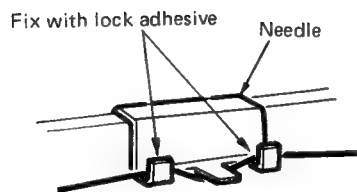

Fig. 38
- Fix the needle to the cord as shown in Fig. 38.